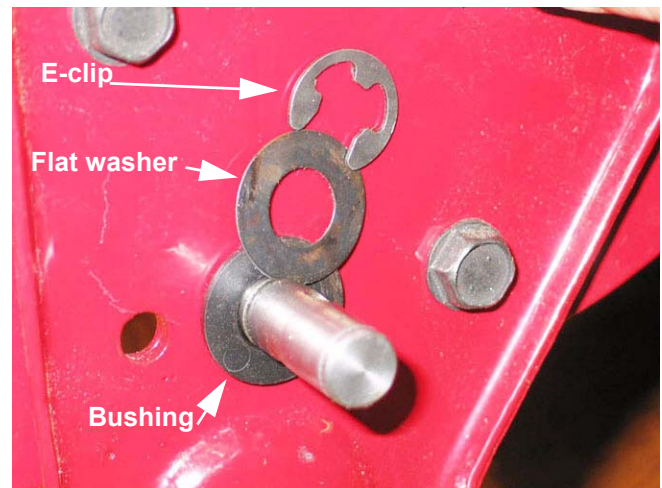

Figure 3.12
- 3.12. Remove E-clip and flat washer from axle. See Figure 3.12.